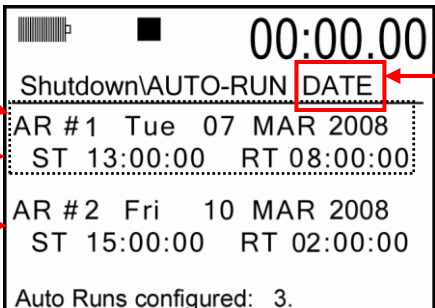

Figure 4-5: Auto-Run Shutdown screen
- The Days field is organized in the following sequence: Sunday (S), Monday (M), Tuesday (T), Wednesday (W), Thursday (T), Friday (F), and Saturday (S).
- For example, Figure 4-5 displays Sunday (S), Tuesday (T), Thursday (T), and Saturday (S) selected as pre-programmed run days.
6. To set **Start time (S)** and **Duration (D)** for Auto-Run #1, press **Enter** repeatedly to move to Time line #1. Press **Up/Down** arrows to change the time and duration values. Press **Enter ↵** to toggle through the fields or press left/right arrows.